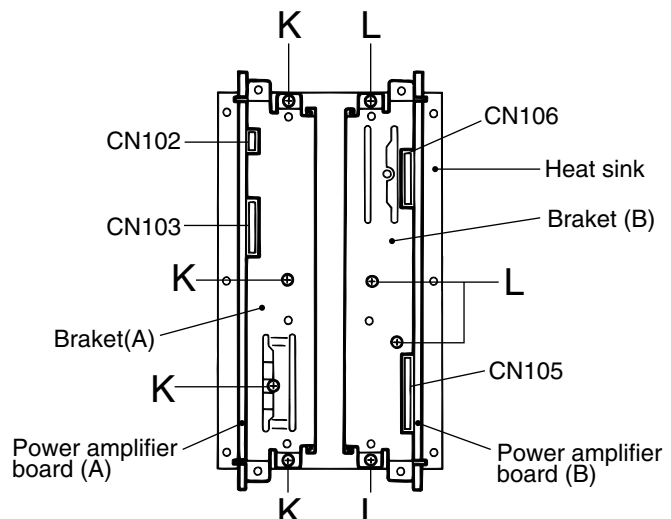

Fig.9
### ■ Removing the power amplifier board (A) (See Figs.9 and 10)
1. Remove the four screws K attaching the power amplifier board (A) to the heat sink.
2. Release the four joint hooks a bent and attached to the outside of the power amplifier board (A).
3. Move the power amplifier board (A) in the direction of the arrow to release joint b and remove the power amplifier board (A) from the bracket (A).
**■ Removing the power amplifier board (B)**
**(See Figs.9 and 11)**
• Prior to performing the following procedure, remove the heat sink cover, the amplifier assembly, the amplifier cover, the preamplifier board, the power supply & SP terminal board, the main amplifier board and power amplifier board (A).
1. Remove the four screws L attaching the power amplifier board (B) to the heat sink.
2. Release the four joint hooks c bent and attached to the outside of the power amplifier board (B).
3. Move the power amplifier board (B) in the direction of the arrow to release joint d and remove the power amplifier board (B) from the bracket (B).